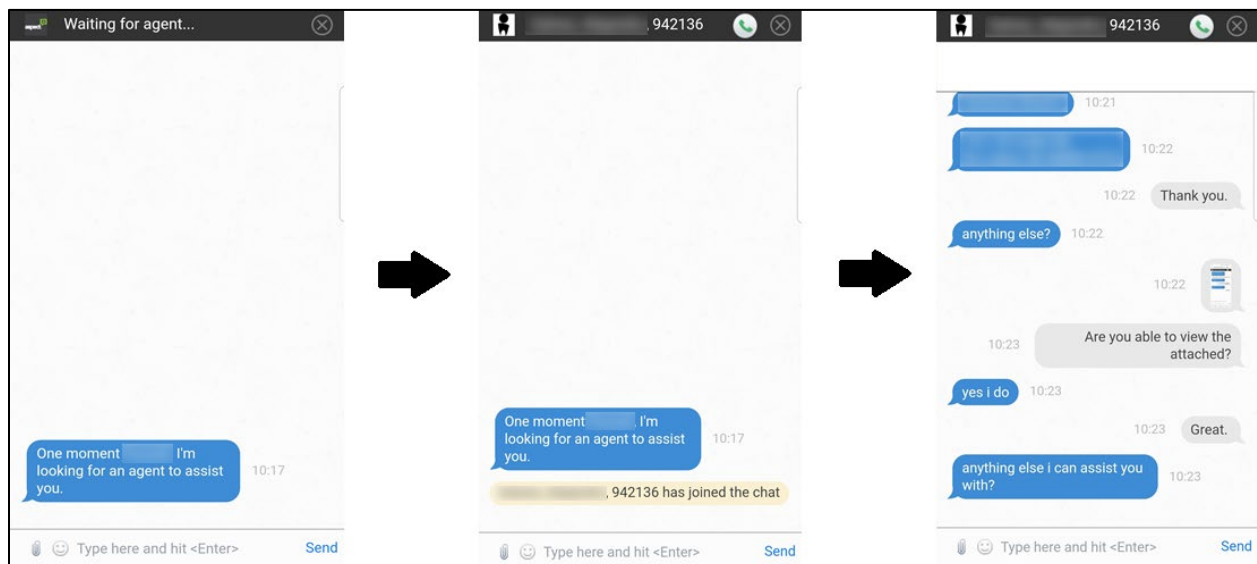

Figure 13: Chatting with an agent
3. Selecting Live Chat will notify an agent to connect to the chat, as shown in Figure 13. You can discuss whatever issue you are currently experiencing with the agent and work together to correct the issue.